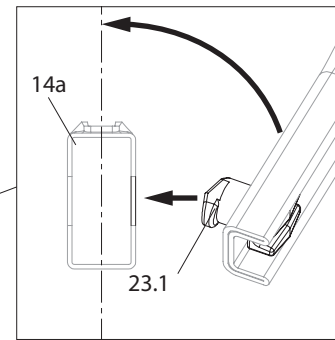

Fig. A4.08b
2. Insert the mounting finger (23.1) of the Ledger Brace UBL (23a) diagonally into the hole of the lower Horizontal Ledger UH Plus (14a) and swing the ledger diagonal towards the base scaffold. (Fig. A4.08b)